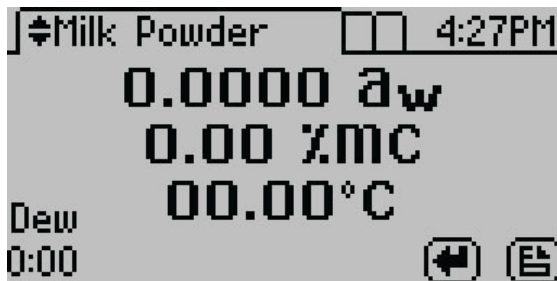

Figure 4 Measurement screen for AQUALAB Milk Powder product model
2. Use the **UP** and **DOWN** buttons to scroll through all available product models that may be used (Figure 4).